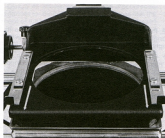

Figure 3
D. Unplug the condenser lamphouse power cord and remove the lamphouse/condenser assembly by pulling forward the support stage latches (see Fig. 3) and lifting the assembly clear of the enlarger. Store the assembly in a safe, dust-free place.